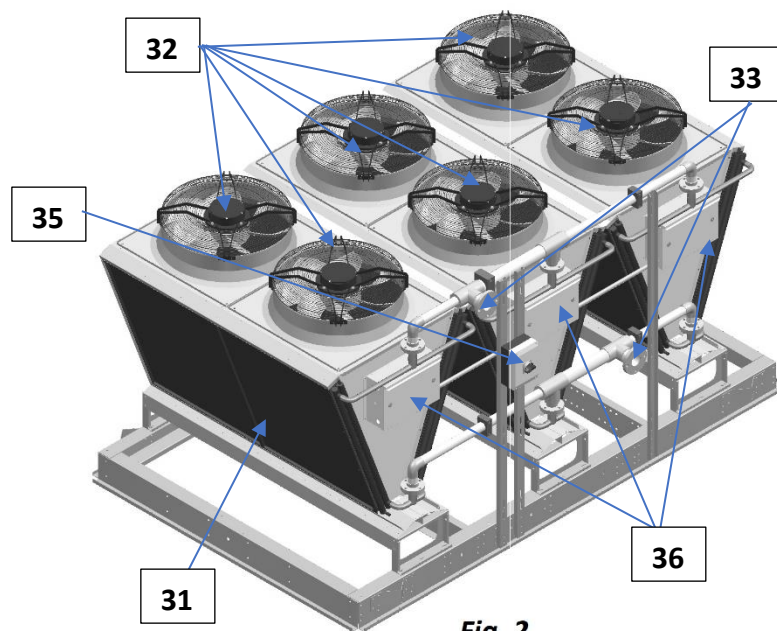

Fig. 2
The general layout of AC options is shown on Pic.D.5 below with the outdoor fluid and *NG-V-32* (Fig.2) has been displayed as an example. While layout and main components are similar for all applicable AC options, there are some deviations (number of fans, composition, etc.). Refer to **AC Options Basic View** (**Basic Information** chapter) for additional information.
- Cooling (AC) **coils** (31) (where heat from glycol mixture is rejected to the ambient air) is mounted onto metal frame, upstream (before) the **fans** (32), that pulls the air through the coils to absorb the heat.
- Normally, fluid cooler would have multiple coils and fans. Cooler NG-V-32 (Fig.2), comprised of six coils, mounted on the angle to each other, and six fans, with two fans and two coils presenting a single block. Depending on the capacity, cooler could be comprised of up to six such single blocks, stacked side by side on the same frame and manifolded together.
- Cooler **piping connections** (33) are identified respectively (IN – OUT);
- Electric power is brought to **disconnect** (35) which feeds it to the **electrical box** (36), that contains cooler power and control apparatuses.